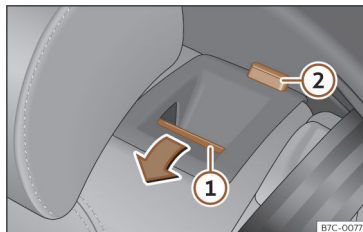

Fig. 86 Rear seat: folding down the backrest.
- Press the unlock button >>> **Fig. 86** ① forwards and at the same time fold the backrest down. The rear seat backrest is not engaged when the red marking of the button ② is visible.